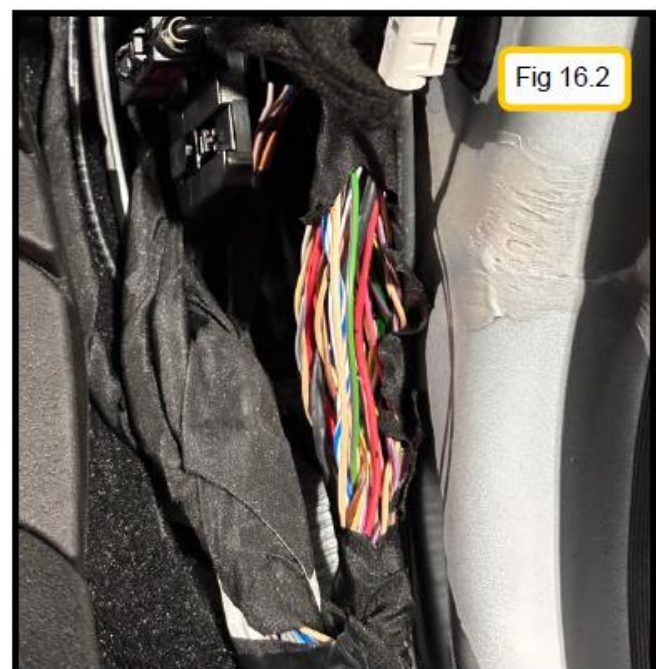

Fig 16.2
4. CAREFULLY cut away the tape wrapped around the wires and locate the purple with green stripe wire and the green with gray stripe wire. (Fig 16.2)